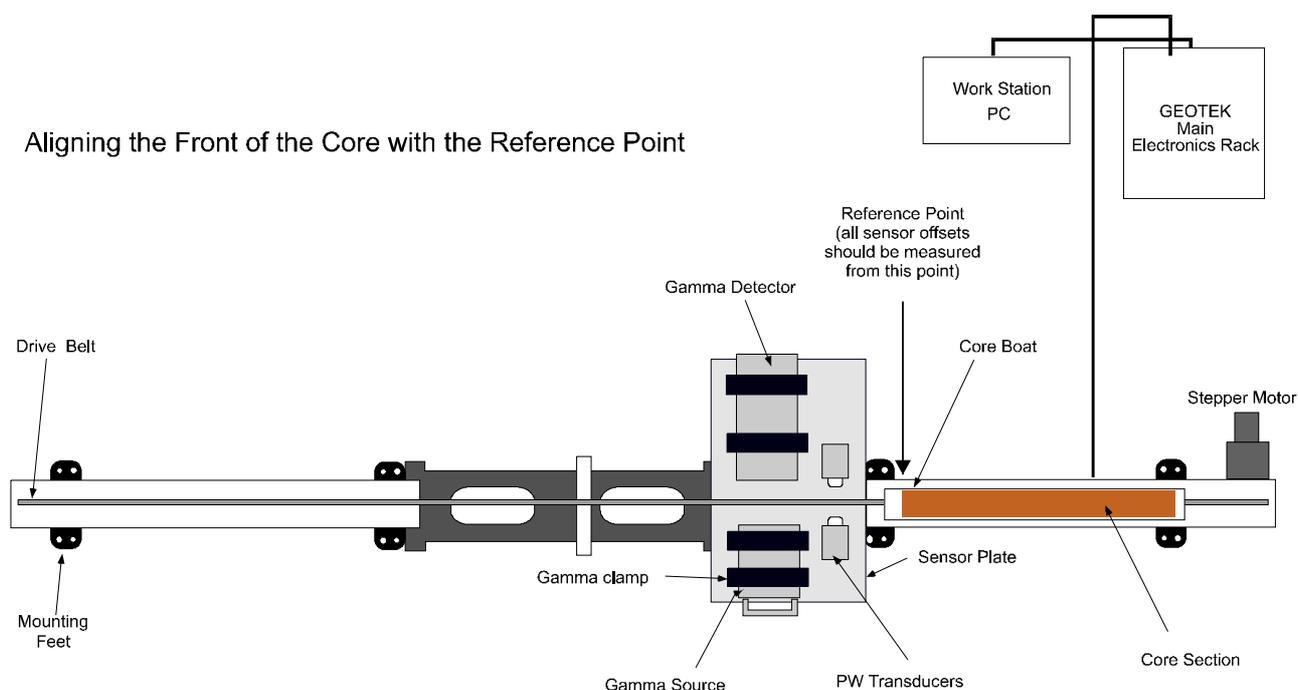

Figure 3-4. Aligning the front of the core with the reference point (boat system).
- II. Once Set Ref. is clicked the user will be prompted to move the boat back to allow the first section to be loaded. Load the core into the boat ensuring that it is butted up against the RH end (i.e. the place the reference point was aligned with). Use the logger control scroll bar and nudge controls to align the LH end of the core with the reference point as instructed (see Figure 3-4).